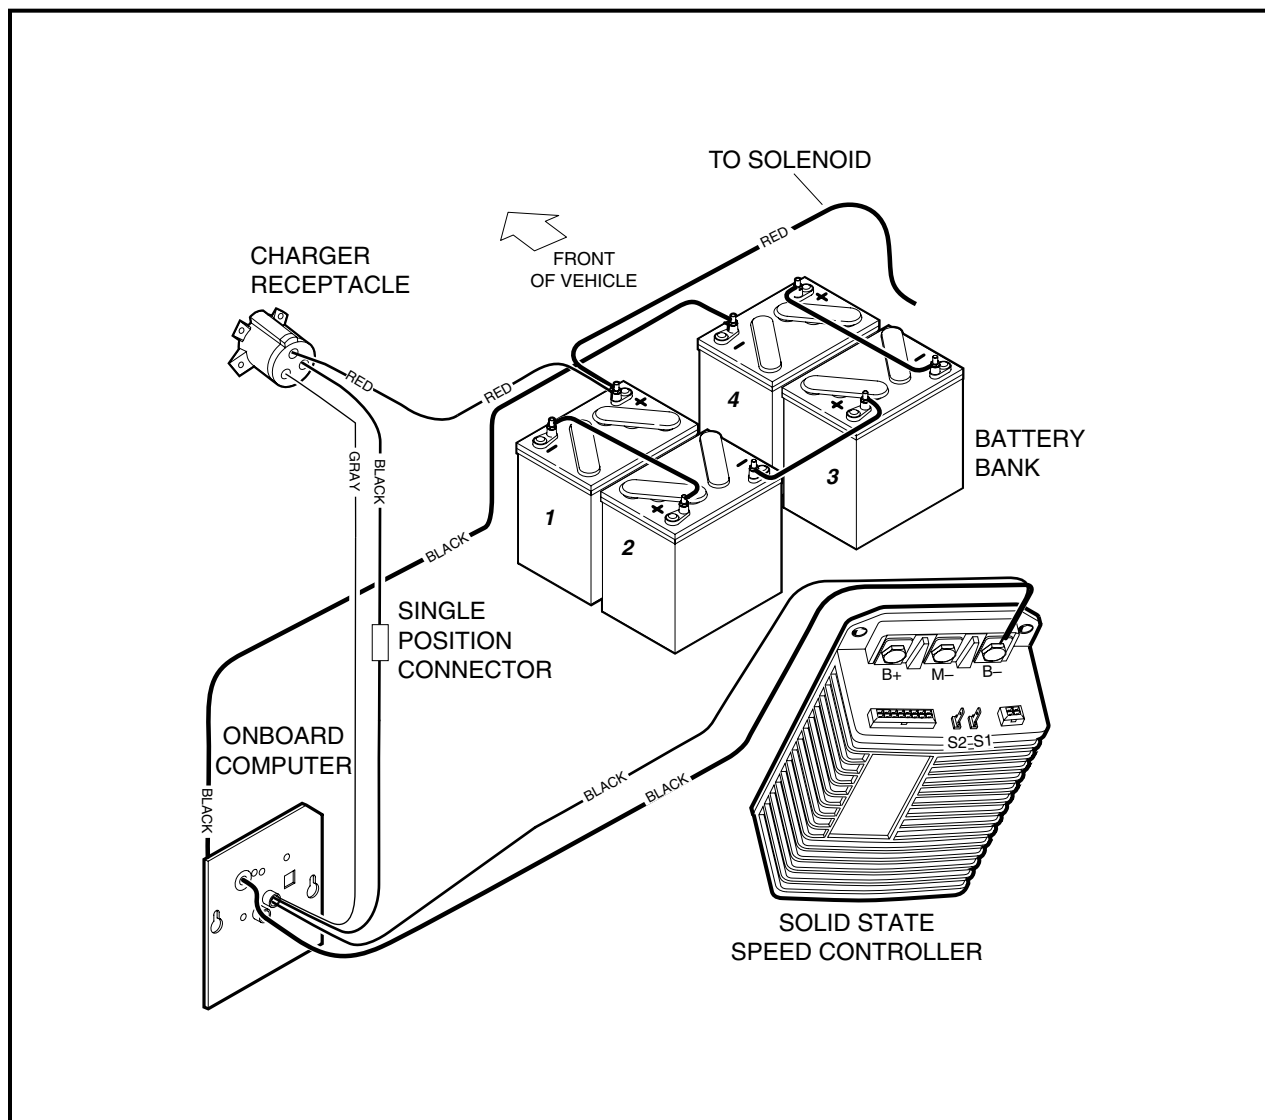

Figure 11-5 Charge Circuit
- Charge circuit (**Figure 11-5, Page 11-10**).